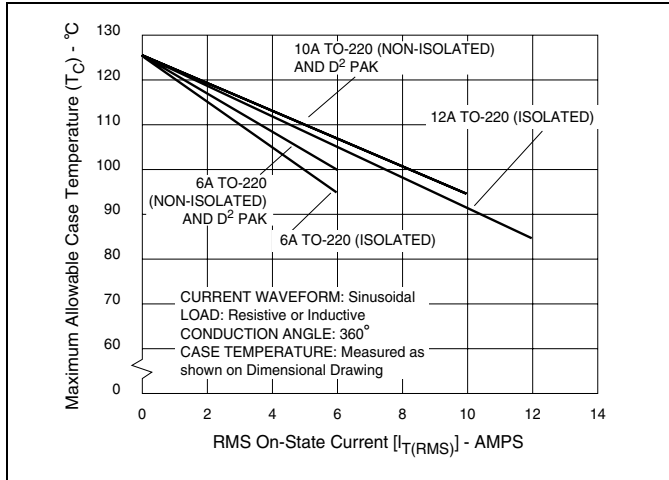
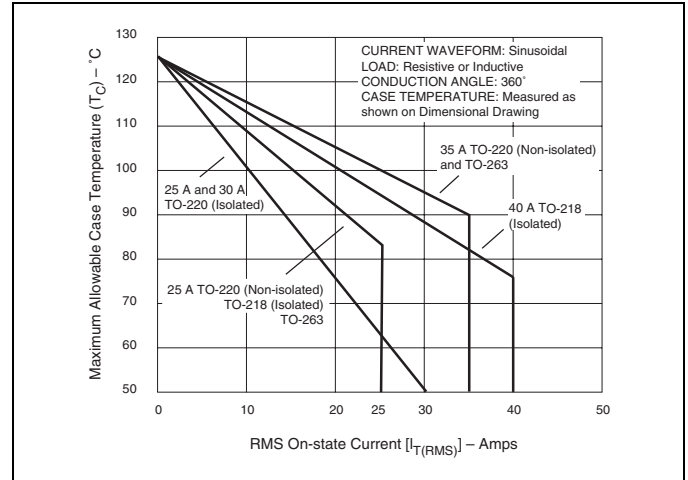
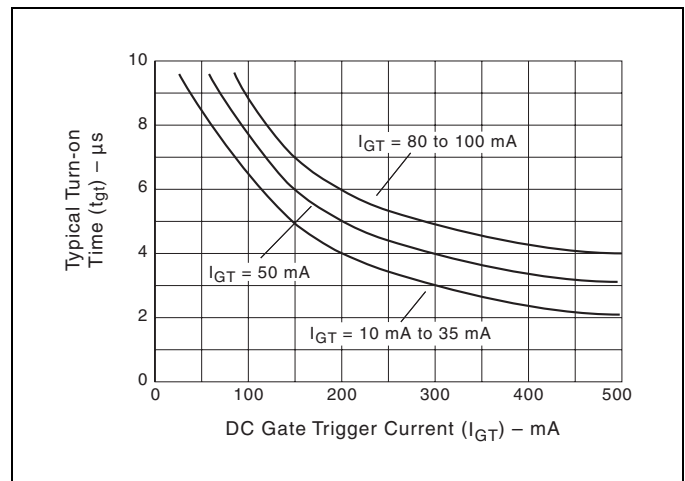

Figure E4.1 Maximum Allowable Case Temperature versus On-state Current (6 A to 12 A)
Figure E4.4 Maximum Allowable Case Temperature versus On-state Current (25 A to 40 A)
Figure E4.12 Turn-on Time versus Gate Trigger Current (Typical)
- (1) For either polarity of MT2 with reference to MT1 terminal
- (2) For either polarity of gate voltage (VGT) with reference to MT1 terminal
- (3) See Gate Characteristics and Definition of Quadrants.
- (4) See Figure E4.1 through Figure E4.4 for current rating at specific operating temperature and Figure 4.16 for free air rating (no heat sink).
- (10) See Figure E4.12 for  $t_{gt}$  versus  $I_{GT}$ .
- (11) See package outlines for lead form configurations. When ordering special lead forming, add type number as suffix to part number.
- (12) Initial on-state current = 400 mA dc for 16 A to 40 A devices and 100 mA for 6 A to 12 A devices.
- (13) See Figure E4.1 through Figure E4.4 for maximum allowable case temperature at maximum rated current.
- (14) Pulse width  $\leq 10 \mu s$ ;  $I_{GT} \leq I_{GTM}$
- (15) For 6 A to 12 A devices,  $R_L = 60 \Omega$ ; 16 A and above,  $R_L = 30 \Omega$
- (16) 40 A pin terminal leads on K package can run 100 °C to 125 °C.
- (17) Alternistor does not turn on in Quadrant IV.
- (18)  $T_C = T_J$  for test conditions in off state
- (19)  $I_{GT} = 200 \text{ mA}$  for 6 A to 12 A devices and 500 mA for 16 A to 40 A devices with gate pulse having rise time of  $\leq 0.1 \mu s$ .
- (20) Minimum non-trigger  $V_{GT}$  at 125 °C is 0.2 V.